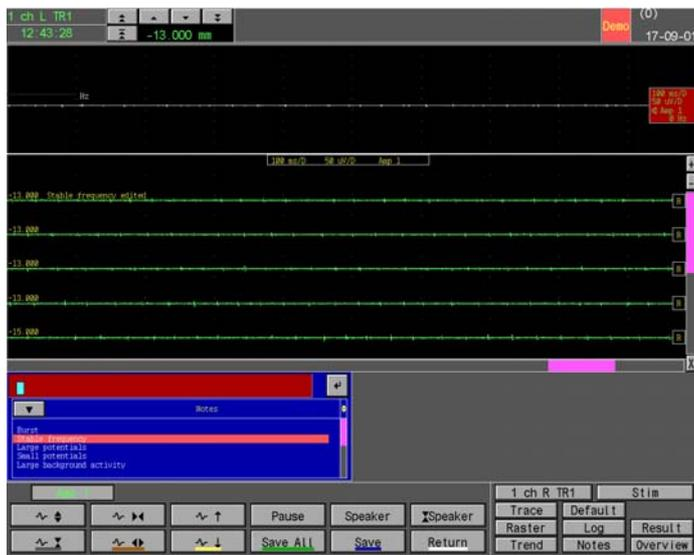

Figure 12 Edited Note in the Raster Window.
- To enable the scroll bar, click the  button at the lower-right part of the Raster Window, see Figure 12 below. The scroll box moves along the scroll bar, and indicates the time frame (seconds) you have chosen to see.
If an edited note is attached to the trace, it will be displayed just above the trace in the Raster Window, provided that it has been selected in the Adv. IOM Modality Setup, (How to find this setup, see page 60). See Figure 12 below in which "stable frequency edited" is shown just above the trace. Information on Selecting Predefined Notes see page 18.